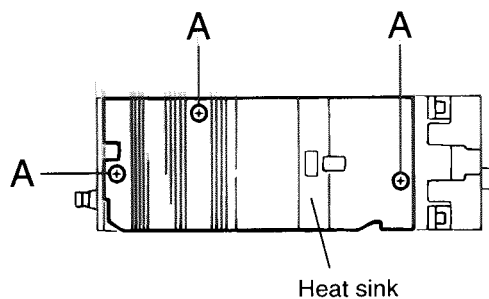

Fig.3
■ Removing the heat sink (See Fig.3)